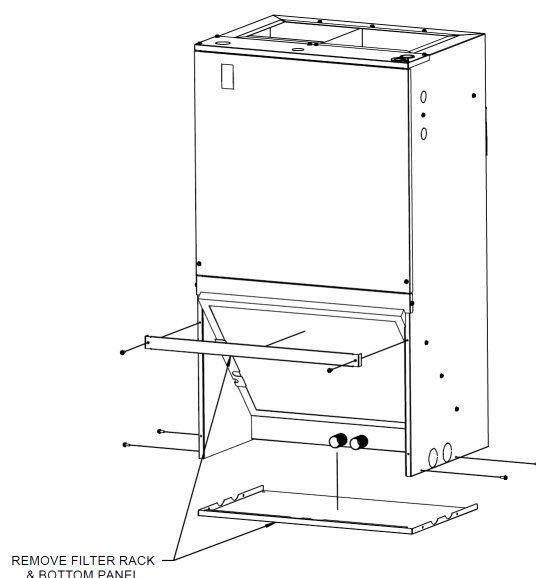

Figure 2 - Removal of Filter Rack and Bottom Panel
2. Dispose of filter rack. Refer to figure 2 – Removal of Filter Rack and Bottom Panel.
All wiring must comply with local and national code requirements. Units are provided with wiring diagrams and nameplate data to provide information required for necessary field wiring. Refer to figure 2 for points of entry of the wiring into the cabinet.